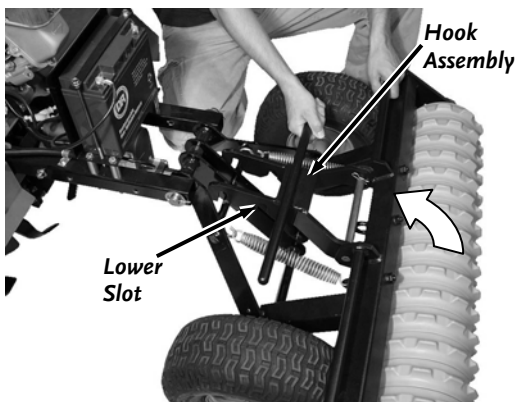

Figure 28
10. Lift the Culti-packer as you rotate the Hook Assembly forward until the Lower Slots of the Hook Assembly can be hooked over the Support Rod (**Figure 28**).